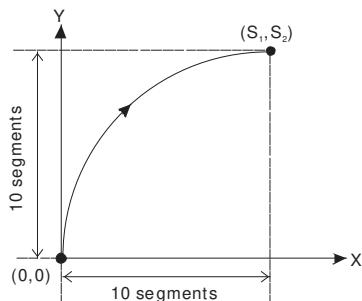

Figure 1
- The lower 16 bits of **S** (settings of direction and resolution): K0 refers to clockwise 10-segment (average resolution) output; K2 refers to clockwise 20-segment (higher resolution) output and a 90° arc can be drawn (see figure 1 and 2). K1 refers to counterclockwise 10-segment (average resolution) output; K3 refers to counterclockwise 20-segment (higher resolution) output and a 90° arc can be drawn (see figure 3 and 4).